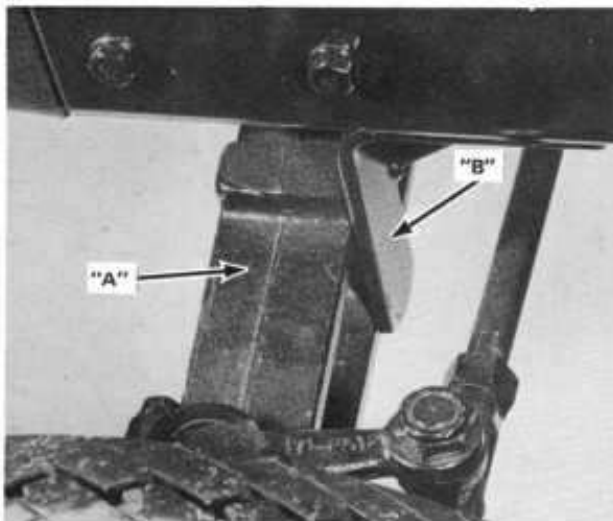

Figure 33
If the clearance between the Front axle assembly "A" and the Stop assemblies "B", Figure 33, is 1/16 inch or more, the stops must be adjusted.
- Move Stop assemblies "B," Figures 33 and 34, up against Front axle assembly "A," Figure 33.